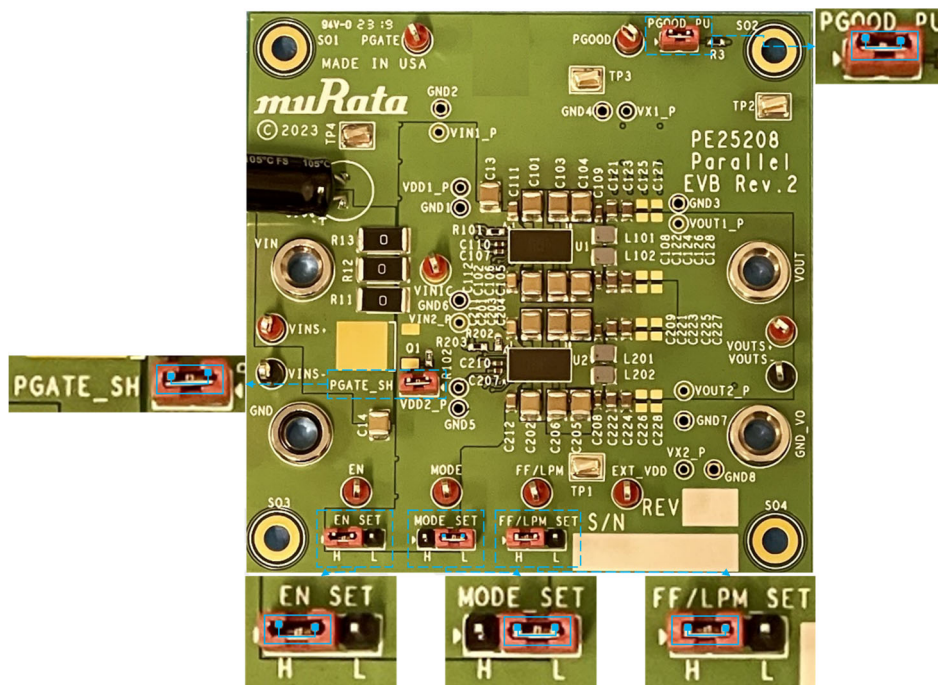

Figure 8. Jumper Installation of the PE25208 Parallel EVK PCB Headers
1. Before powering up the parallel EVK, install the jumpers on the PGATE_SH and PGOOD_PU headers as shown in Figure 8, then configure the EN_SET, MODE_SET, and FF/LPM_SET headers by fitting jumpers in the recommended positions for quick evaluation as listed in Table 3. For example, Figure 8 shows the EN_SET, MODE_SET, and FF/LPM headers set in the enable, divide-by-3 (DIV3) mode and fixed-frequency (FF) mode configuration, respectively.